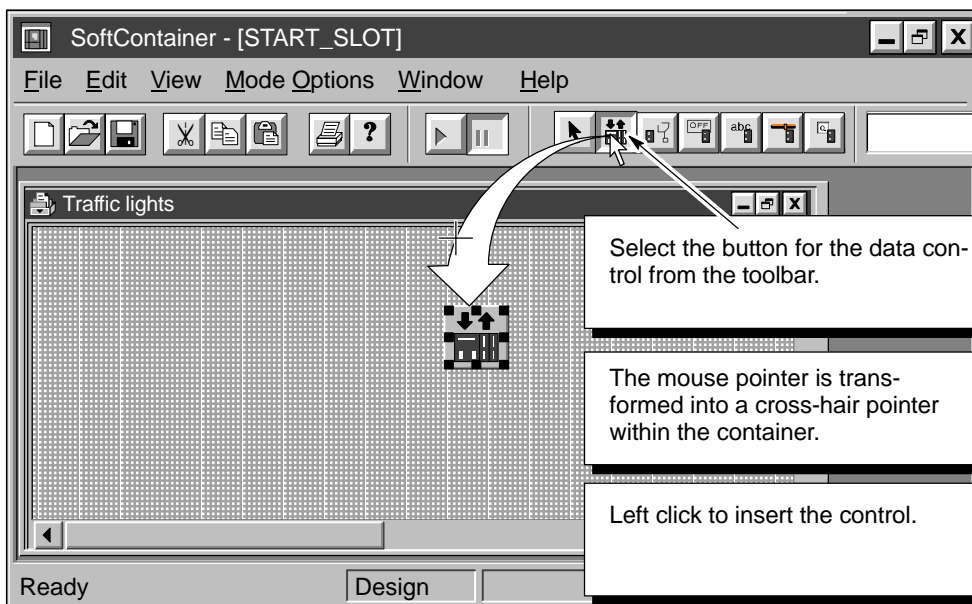

Figure 2-19 Inserting a SIMATIC Data Control from the Toolbar
1. Insert a data control (refer to Figure 2-19):